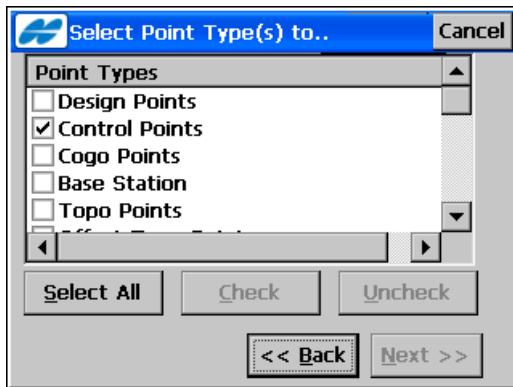

Figure 4-5. Select Point Type(s) to Export
The **Select Point Type(s) to Export** screen (Figure 4-5) selects the types of points to export if *Code Library*, *Localization*, or *Roads* are
- *Select Types of the Points* (for *Points* and *Point Lists* data types) – check mark this field if not all types of points should be exported. In this case the **Select Point Type(s) to Export** screen first displays (see Figure 4-5 on page 4-5).